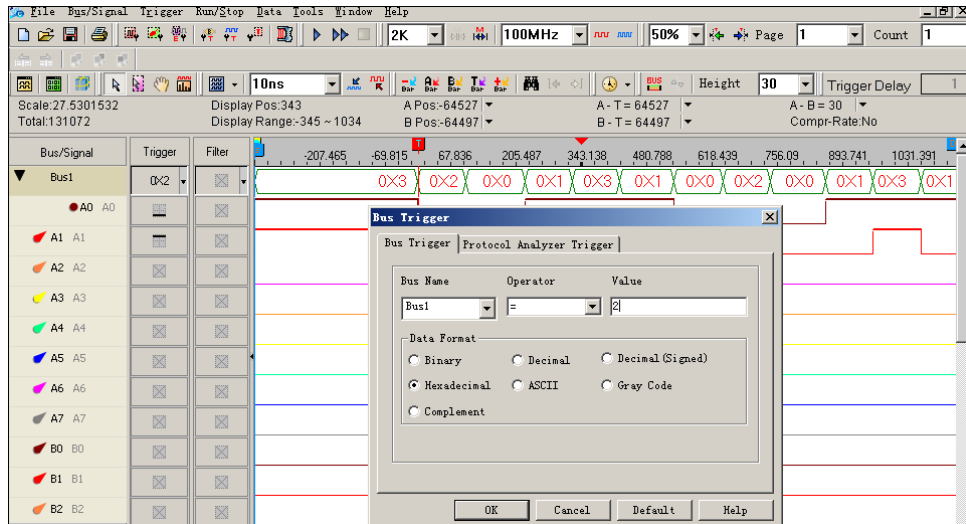

Fig 4-32 – Bus Trigger Setup
Step4. Click **Run** and activate the signal from the tested board to the system to get the result as shown in Fig 4-32.